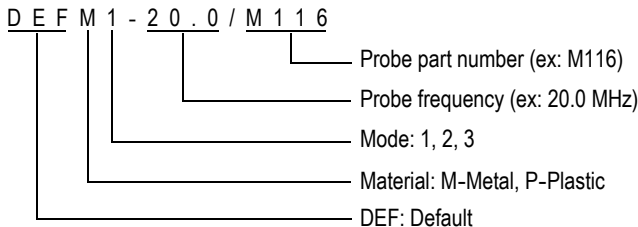

Figure 5-3 Selecting a default single element transducer setup
- c) In the **DEFAULT** screen for the type of probe that you are using (see the example shown in Figure 5-3 on page 79), in the list of available default setups, highlight the setup for the transducer that you are using.